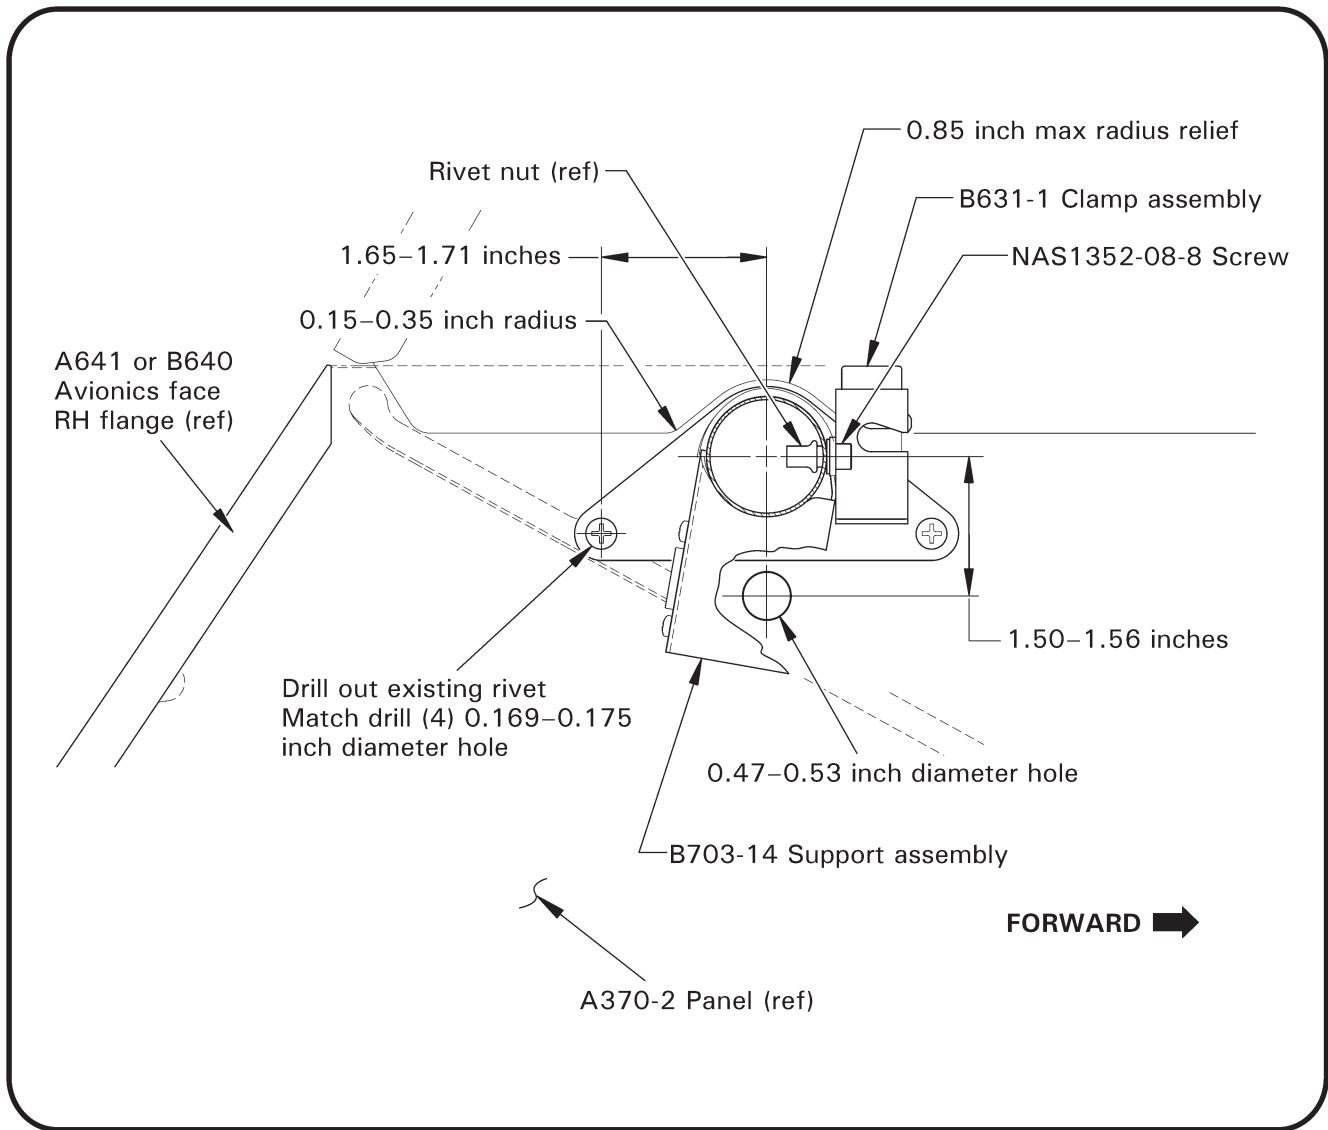
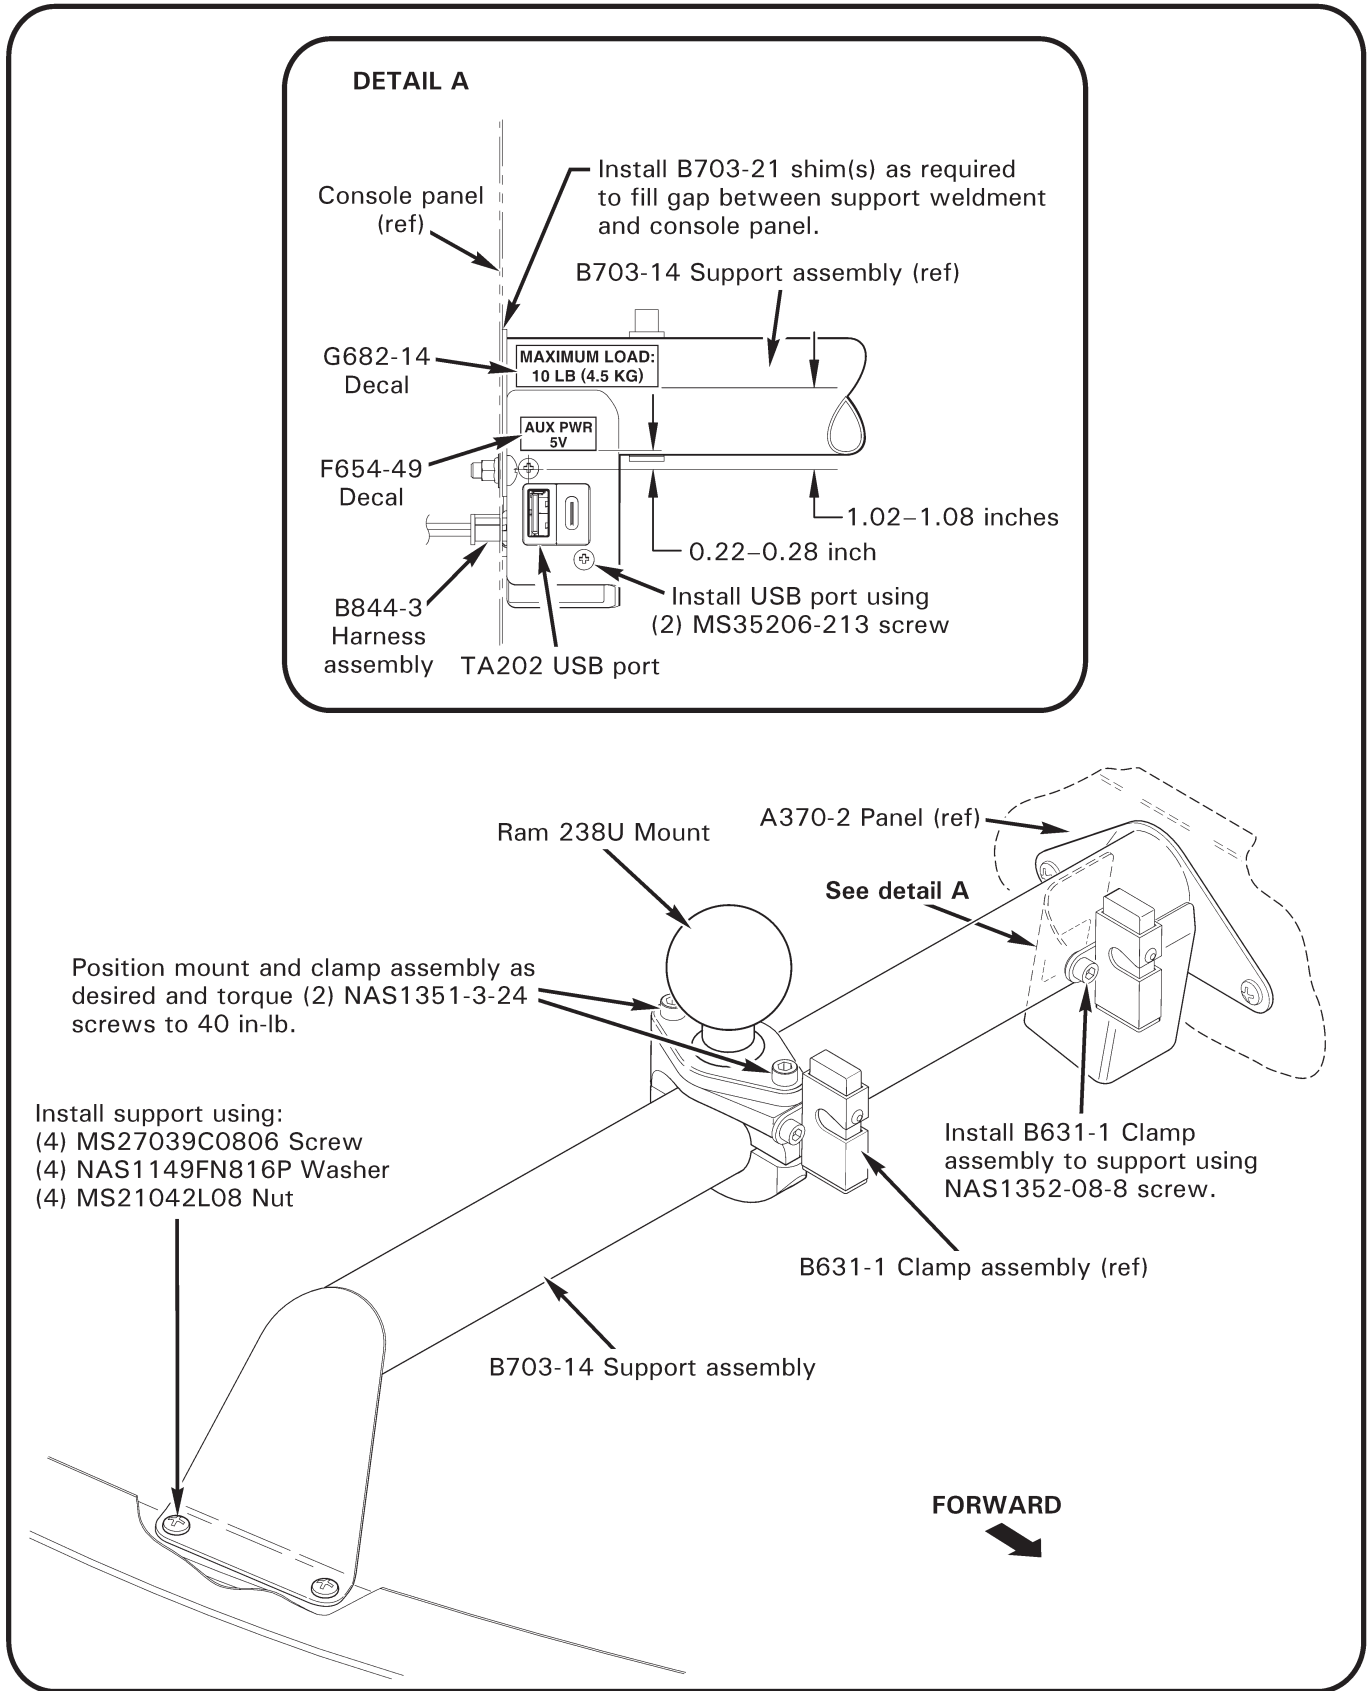

FIGURE 2 Support assembly installation
FIGURE 4 Completed support assembly installation
9. Refer to Figure 2. Position inboard flange of B703 support assembly adjacent to existing rivet head as shown; temporarily secure support assembly. Horizontally level $\pm 1^\circ$ and perpendicular to A370 console-support panel in horizontal plane $\pm 1^\circ$. Verify potential match-drilled holes at support's inboard flange will not damage edge, or flange of any installed internal stiffener; adjust support location as required within stated limits. Check leveling and adequate clearance on reverse side prior to drilling. Subsequent holes are based on accurately locating support assembly installation holes. Using a drill stop, progressively match drill and install a cleco in (4) 0.169–0.175 inch diameter holes, two places per flange. Remove clecos and support assembly.
10. Lay out location for 0.5 inch diameter hole as shown in Figure 2. Verify adequate clearance on reverse side; using a drill stop, drill 0.5 inch diameter hole on panel.
15. Refer to Figure 4, Detail A. Install TA202 USB port in provided location at inboard end of B703 support and secure with (2) MS35206-213 screws. Affix F654-49 "AUX PWR 5V" decal on flat surface of support above USB ports, and affix G682-14 "MAXIMUM LOAD: 10 LB (4.5 KG)" decal on tube immediately above USB ports.
16. Refer to Figure 4. Install B631-1 clamp assy, push button pointing up, on inboard end of B703 support and secure at rivet nut (see Figure 2) using a NAS1352-08-8 screw.
17. Install B703 support assembly in helicopter with (4) MS27039C0806 screws, (4) NAS1149FN816P washers, (4) MS21042L08 nuts finger tight. Tighten both outboard screws. As required to fill gap, install maximum (3) B703-13 shims between support assembly and A370 panel, using longer screws as necessary. Tighten both inboard screws.
19. With console closed, verify clearance between console lower edge and A703 support; If required, relieve console lower edge per Figure 2; maintain maximum 0.85 inch radius for the relief as shown.
21. Refer to Figure 4. Assemble RAM238U ball & (attached) B630-1 clamp assembly on B703 support with push button on forward side and pointing up. Position clamp & ball as desired and torque (2) NAS1351-3-24 screws to 40 in-lb.